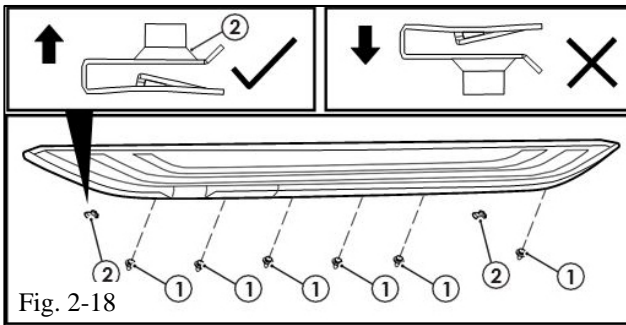

Fig. 2-18
**⚠ NOTE:** Ensure correct U-nut orientation (Fig. 2-18).